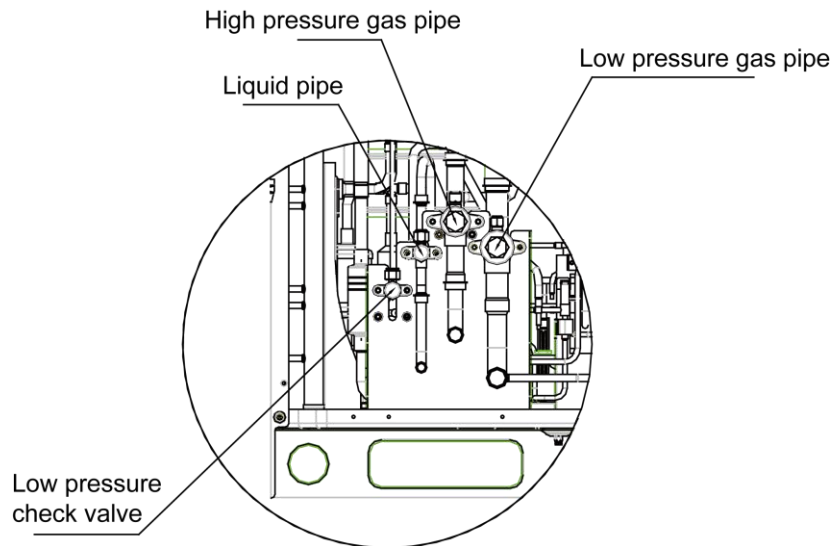

Fig.4.4.1
- (1) Before vacuum pumping, make sure that outdoor unit's liquid valve, high pressure gas valve and low pressure gas valve are completely closed. Use vacuum pump to extract air inside indoor unit and connection pipe from the nozzles of liquid valve, high pressure gas valve and low pressure gas valve of outdoor unit, as shown in Fig.4.4.1.
- (2) Because air extraction from outdoor unit's liquid valve, high pressure gas valve and low pressure gas valve must be performed simultaneously, 2 sets of vacuum pump must be used at the same time to guarantee the required vacuum degree.